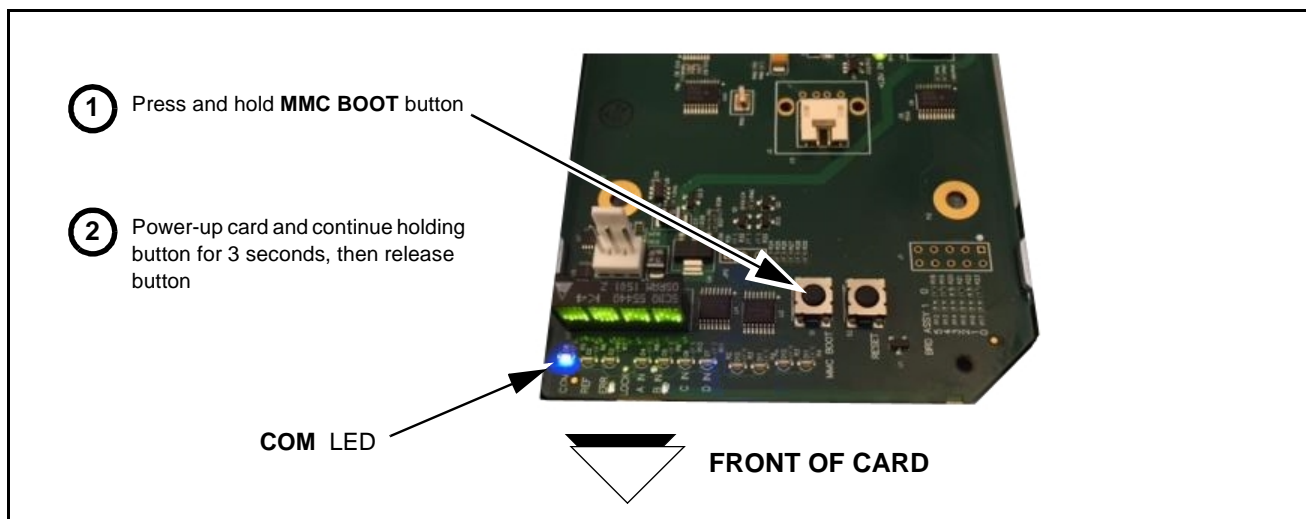

Figure 3-11 MMC Boot Button
- (See Figure 3-11.) With card powered-down, locate the **MMC BOOT** button on the card. Proceed as shown in picture.